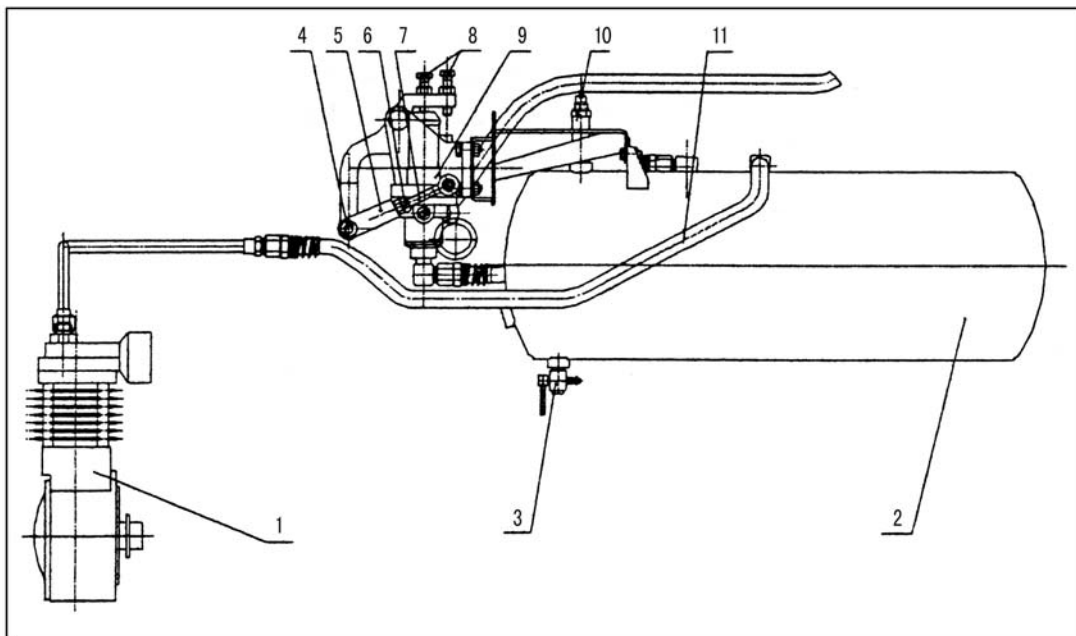

Fig.34 Air Braking Device
6.10.2 Buildup of Airbraking Device of Trailer (Fig.34)